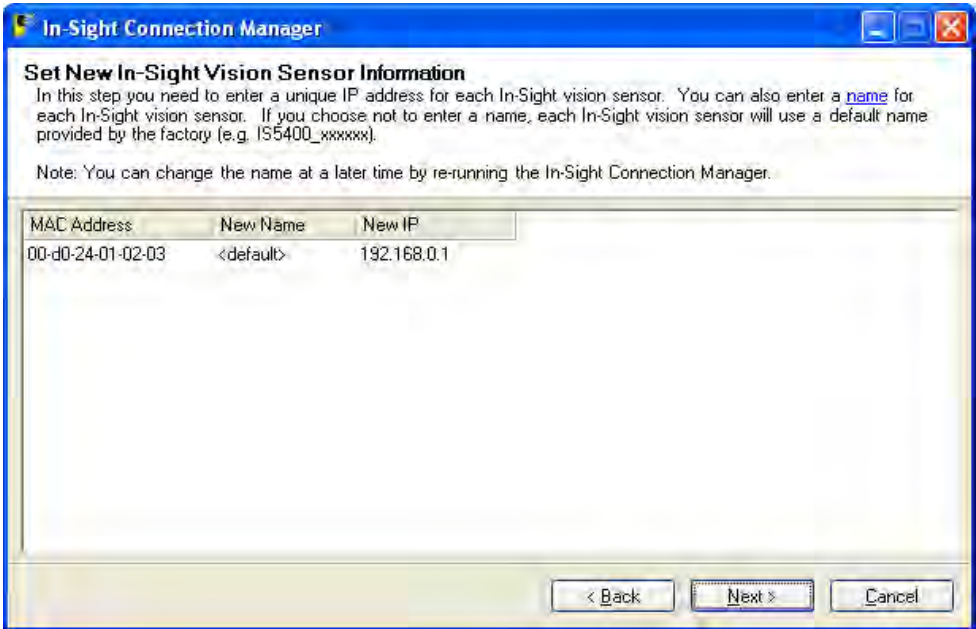

Figure 4-5: Set New In-Sight Vision Sensor Information Dialog
- 13. For each sensor in the table (Figure 4-5), enter a unique IP address in the New IP column. Optionally, you can type in meaningful names for each sensor under the New Name column.